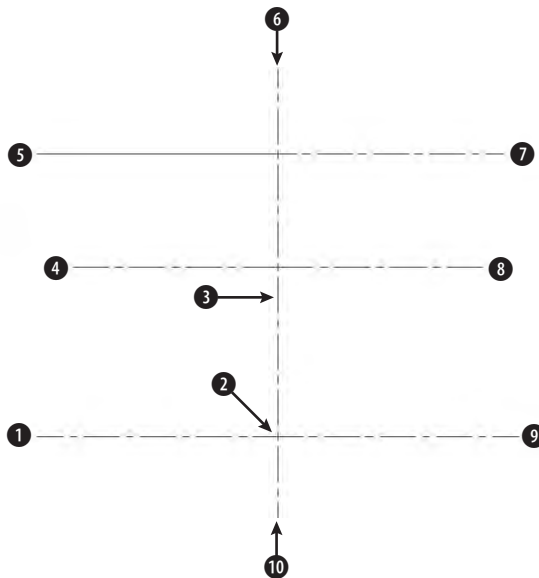

Figure 21-17: These center lines are the basis for drawing a chair.
3. Choose Circle from the Draw toolbar. Use the From object snap to specify the center at @2,0 from ❶ in Figure 21-17. Set the radius to 0.5.